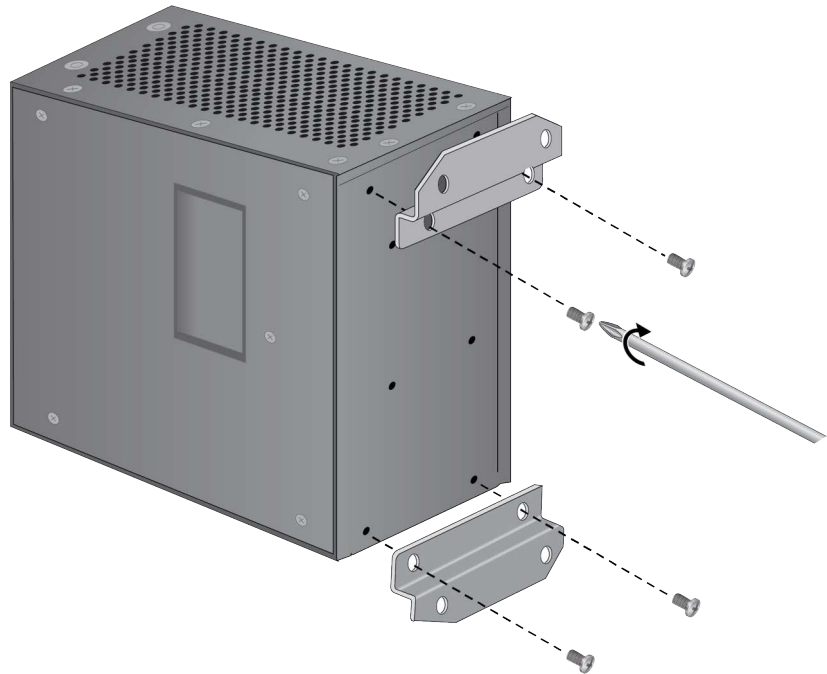

Figure 21. Installing the Wall Brackets on the Switch
4. Install the two wall brackets to the back panel of the switch with the four screws removed in the previous step or the screws in the accessory kit. Refer to Figure 21.
4. Install the two wall brackets to the back panel of the switch with the four screws removed in the previous step or the screws in the accessory kit. Refer to Figure 21 on page 71.